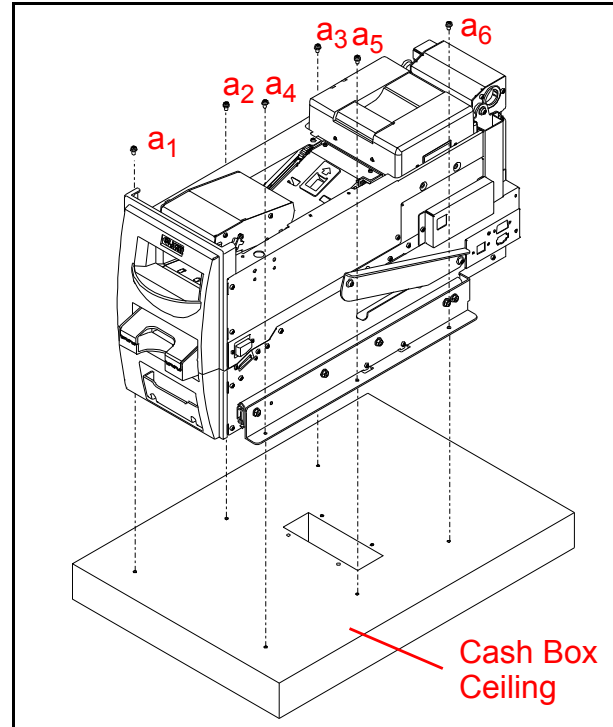

Figure 7 Rail Brackets Holes
2. Position the RDM-100 Unit to align the Rail Bracket Installation Holes on the Cash Box Ceiling to the Rail Brackets Holes. Attach the Rail Brackets to the Cash Box Ceiling with the six (6) M4x8 (or greater) Screws with Washers (Figure 7 a₁ to a₆).